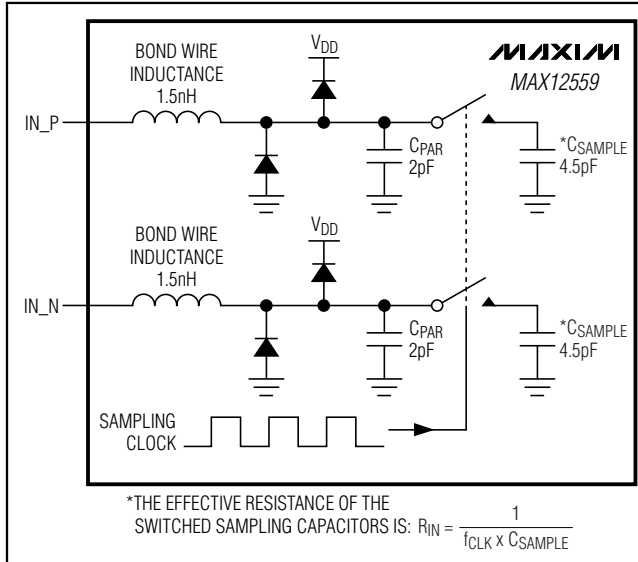
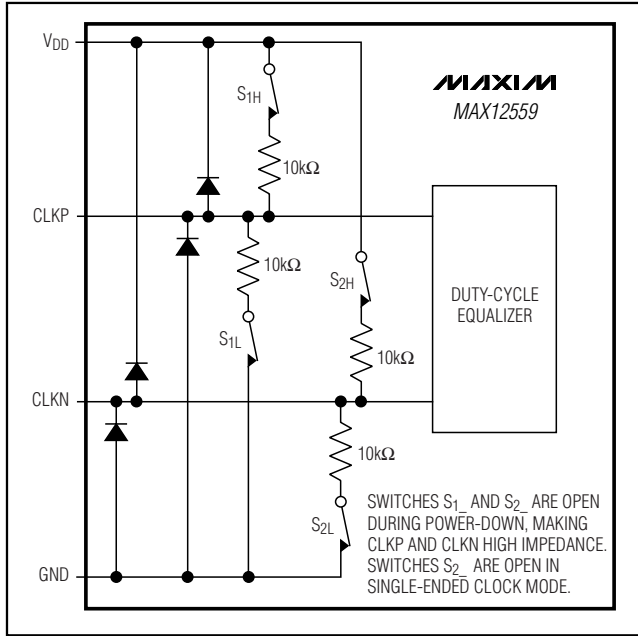
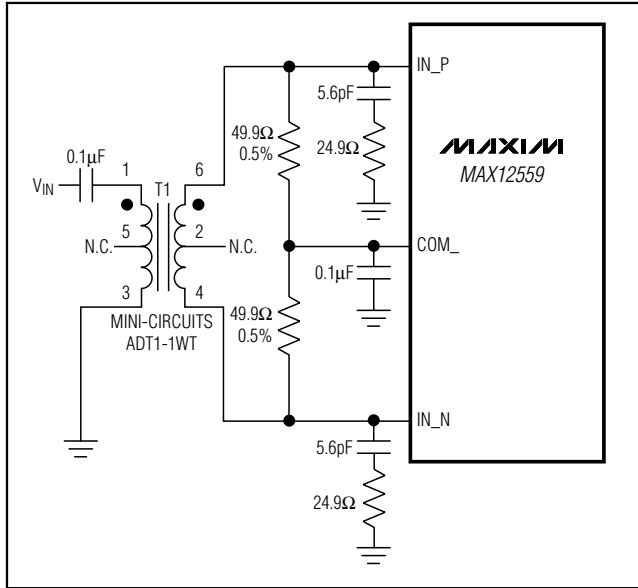
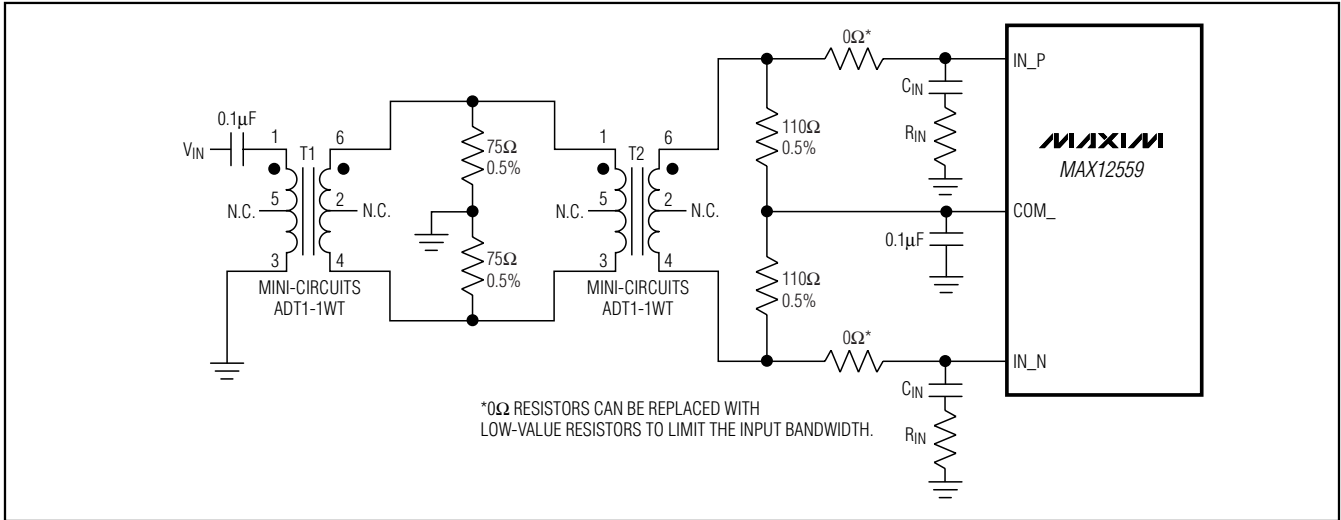

Figure 3. Internal T/H Circuit
Figure 4. Simplified Clock Input Circuit
Figure 9. Transformer-Coupled Input Drive for Input Frequencies Up to Nyquist
Figure 10. Transformer-Coupled Input Drive for Input Frequencies Beyond Nyquist
Figure 3 displays a simplified functional diagram of the input T/H circuit. This input T/H circuit allows for high analog input frequencies (high IF) of 175MHz and beyond and supports a $V_{DD} / 2$ common-mode input voltage.
The MAX12559 sampling clock controls the switched-capacitor input T/H architecture (Figure 3) allowing the analog input signals to be stored as charge on the sampling capacitors. These switches are closed (track mode) when the sampling clock is high and open (hold mode) when the sampling clock is low (Figure 4). The analog input signal source must be able to provide the dynamic currents necessary to charge and discharge the sampling capacitors. To avoid signal degradation, these capacitors must be charged to one-half LSB accuracy within one-half of a clock cycle. The analog input of the MAX12559 supports differential or single-ended input drive. For optimum performance with differential inputs, balance the input impedance of IN_P and IN_N and set the common-mode voltage to mid-supply ($V_{DD} / 2$). The MAX12559 provides the optimum common-mode voltage of $V_{DD} / 2$ through the COM output when operating in internal reference mode and buffered external reference mode. This COM output voltage can be used to bias the input network as shown in Figures 9, 10, and 11.
The MAX12559 accepts both differential and single-ended clock inputs with a wide 25% to 75% input clock duty cycle. For single-ended clock input operation, connect DIFFCLK/SECLK and CLKN to GND. Apply an external single-ended clock signal to CLKP. To reduce clock jitter, the external single-ended clock must have sharp falling edges. For differential clock input operation, connect DIFFCLK/SECLK to O_{VDD} . Apply an external differential clock signal to CLKP and CLKN. Consider the clock input as an analog input and route it away from any other analog inputs and digital signal lines. CLKP and CLKN enter high impedance when the MAX12559 is powered down (Figure 4).
- 1) INAP/B, INAN/B analog inputs are disconnected from the internal input amplifier (Figure 3).
- 6) CLKP, CLKN clock inputs enter a high-impedance state (Figure 4).
An RF transformer (Figure 9) provides an excellent solution to convert a single-ended input source signal to a fully differential signal, required by the MAX12559 for optimum performance. Connecting the center tap of the transformer to COM provides a V_{DD} / 2 DC level shift to the input. Although a 1:1 transformer is shown, a step-up transformer can be selected to reduce the drive requirements. A reduced signal swing from the input driver, such as an op amp, can also improve the overall distortion. The configuration of Figure 9 is good for frequencies up to Nyquist ($f_{CLK} / 2$).
The circuit of Figure 10 converts a single-ended input signal to fully differential just as Figure 9. However, Figure 10 utilizes an additional transformer to improve the common-mode rejection allowing high-frequency signals beyond the Nyquist frequency. A set of 75Ω and 110Ω termination resistors provide an equivalent 50Ω termination to the signal source. The second set of termination resistors connects to COM_ providing the correct input common-mode voltage. Two 0Ω resistors in series with the analog inputs allow high-IF input frequencies. These 0Ω resistors can be replaced with low-value resistors to limit the input bandwidth.
The input network in Figure 10 can be modified to enhance the frequency-range-specific AC performance of the MAX12559 by simply replacing the input capacitance with a series network of resistor (R_{IN}) and capacitor (C_{IN}). Table 4 displays a selection of resistors and capacitors that are recommended to help improve the already excellent performance of this ADC for specific applications requiring only a certain range of input frequencies.